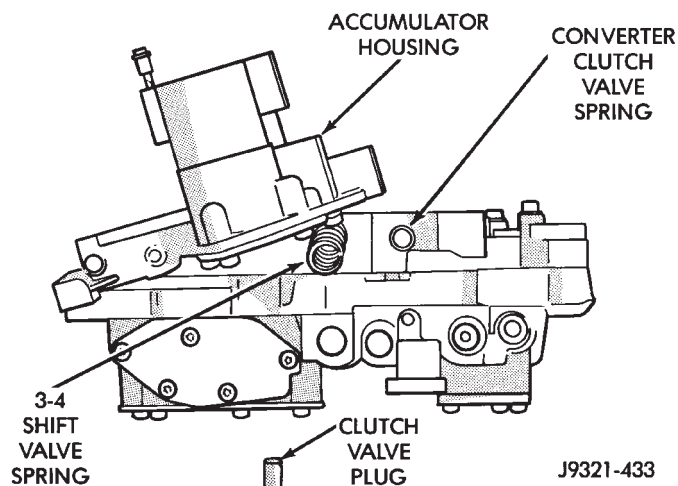

Fig. 59 3-4 Shift And Converter Clutch Valve Springs And Plug
(25) Carefully rotate 3-4 accumulator housing upward and remove 3-4 shift valve spring and converter clutch valve plug and spring (Fig. 59).